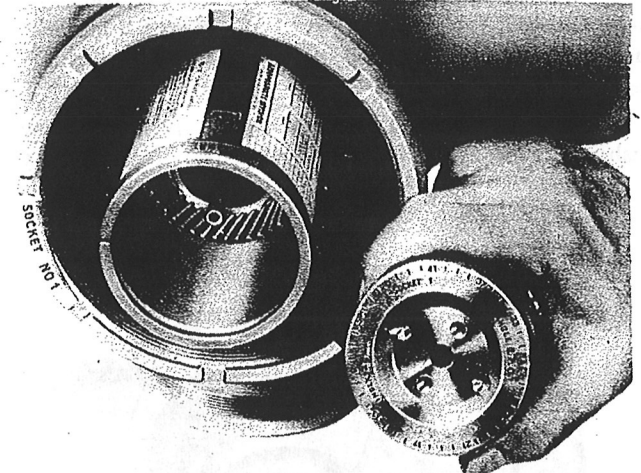

Figure 119—Noting Reference Numbers on Piston Head
1. Each piston must be returned to its proper hub socket. Note the reference numbers stamped on the piston head. (See figure 119.)